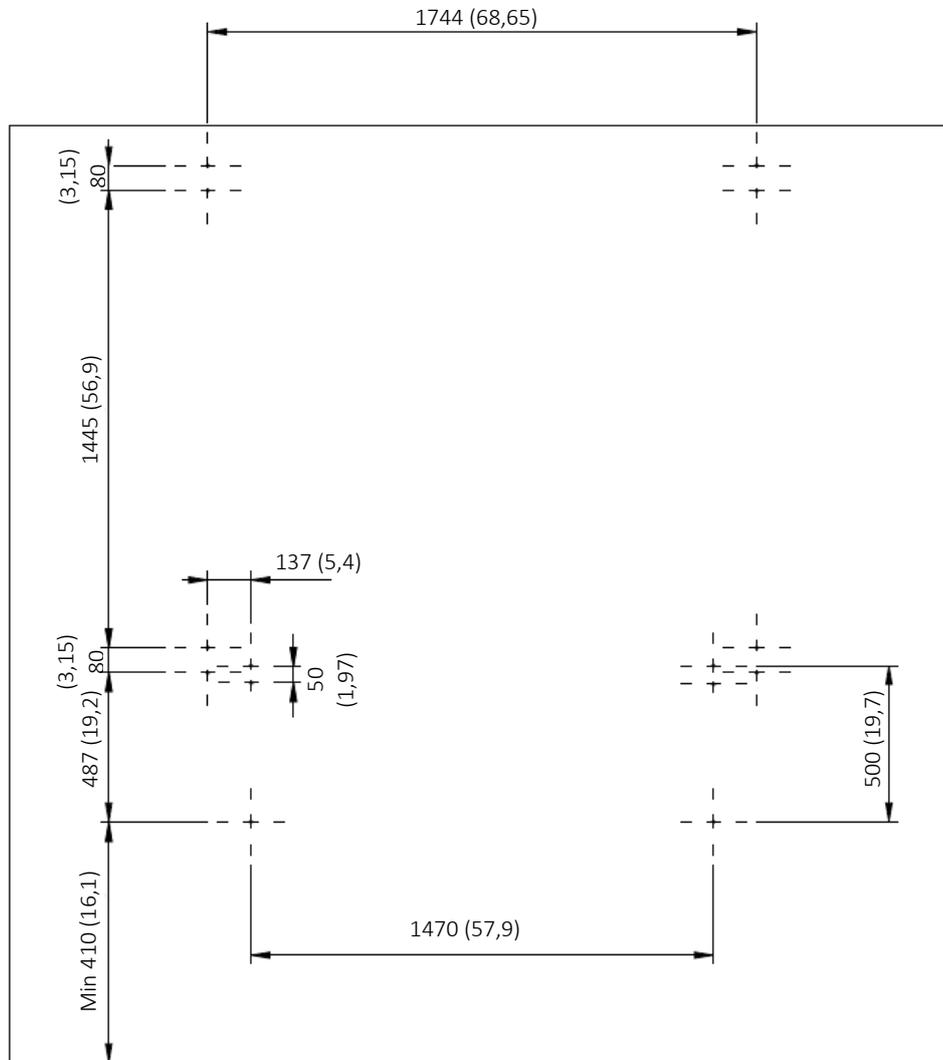

Fig. 4 *Dimensions to create halls for wall fixing of the dark-box. Dimensions mm (inch).*
- Before to start with assembly, make the holes in the wall (figure 4) and insert the M12 dowels (not provided by CoeLux s.r.l. but under installed responsibility).